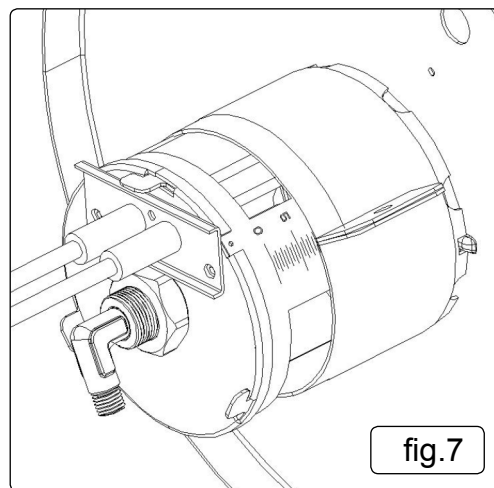

fig.7
8.3. AIR COLLAR ADJUSTMENT (FIG. 7)